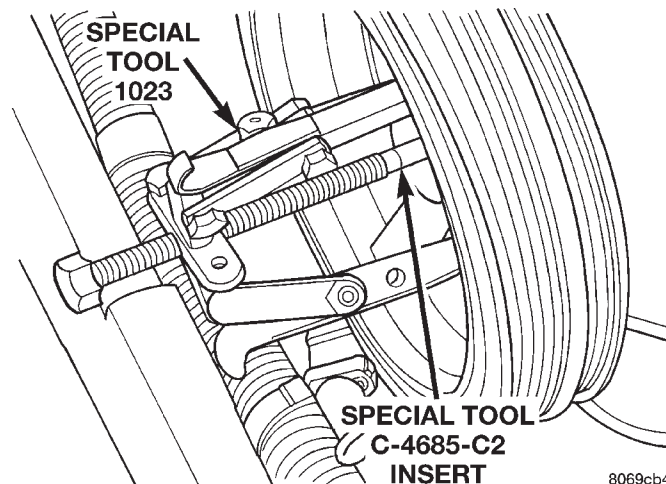

Fig. 2 Crankshaft Pulley — Removal
(1) Drain cooling system and remove upper radiator hose for access to timing belt covers. Refer to Cooling System Group 7 for draining procedure. Remove fan module.
(2) Remove the accessory drive belts. Refer to Accessory Drive System in Group 7 for service procedure. Remove crankshaft pulley (Fig. 2).